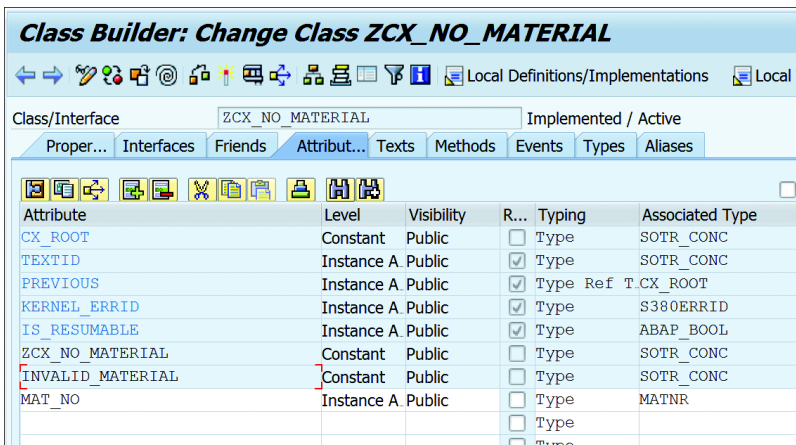

Figure 9.21 Exception ID Added as Attribute
- At this point, under the ATTRIBUTES tab, you'll see that the EXCEPTION ID defined is added as a constant of type SOTR_CONC, as shown in Figure 9.21. The maintained text is saved in the OTR and supports internationalization (translations).